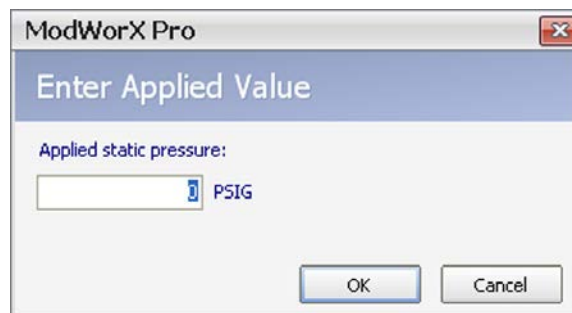

Figure 8.12
- Apply 0 psig pressure to the calibration test device and click **Acquire Zero Offset**. An Enter Applied Value dialog will appear (Figure 8.12).